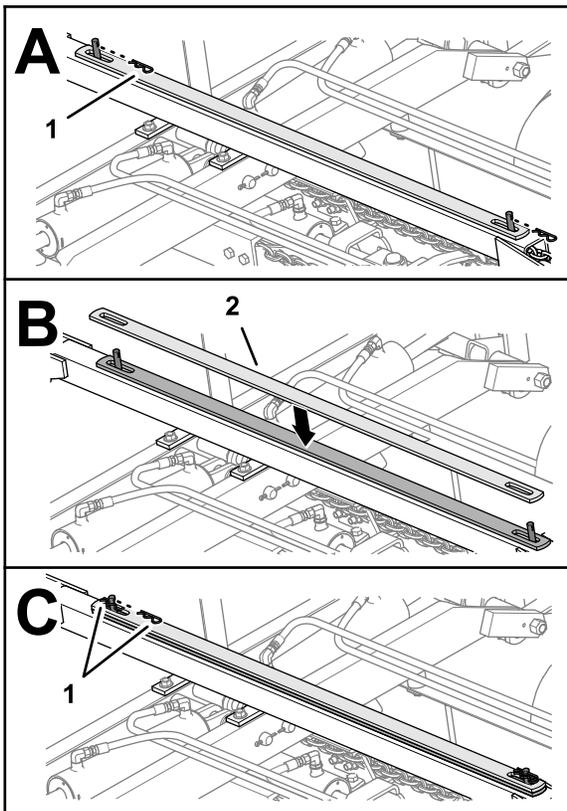

Figure 19
- Insert the 2 hair pins that you removed in 1 and the 2 hair pins from the 5 to 7 conversion kit into the studs (Figure 19).
- Remove the 2 hair pins that secure the transport strap for the cutting-unit 4 and the cutting-unit 5 lift arms (Figure 19).
- Assemble the transport strap of the 5 to 7 conversion kit onto the pins of the center frame channel (Figure 19).